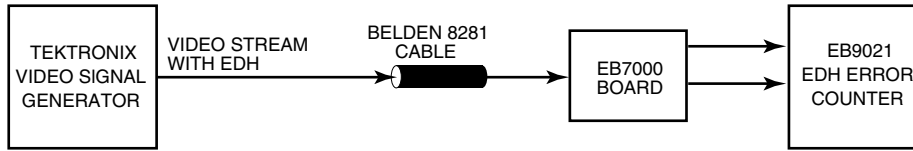

Fig. 1b Test Setup for Error-Free Cable Length
- Evaluated using test setup Figure 1b.
- 5. Evaluated using test setup Figure 1b.